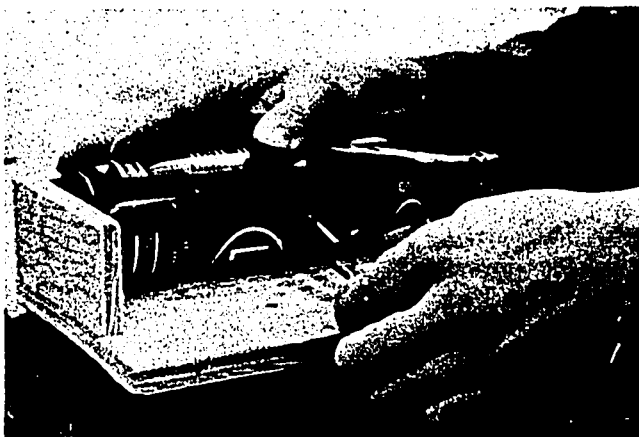

Fig. 116-1. Locating Position for Glass Cutter
10. Locate the position of the glass cutter in jig No. 116-2 so that it makes contact with the bottle to be separated. See Fig. 116-1. In order to induce a fracture, the bottle will be rotated against the cutter wheel. Try and position the cutter wheel so that it will not run over any painted surfaces on the bottle. (Paint on the bottle prevents effective fracturing.)